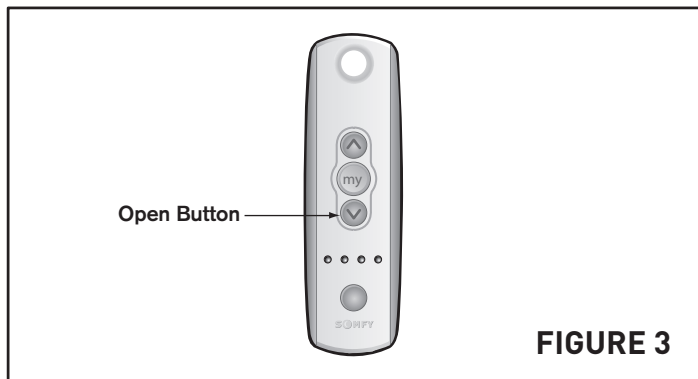

FIGURE 3
Step 6. Open your EasyShade using the open button on your remote control. (See Figure 3) Once you opened the EasyShade, unplug the power cord from the electrical outlet.